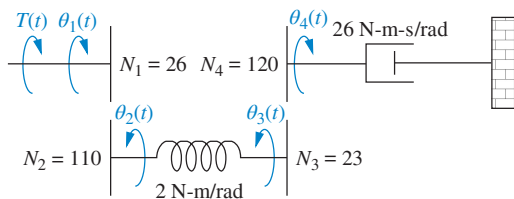

FIGURE P2.23
38. Find the transfer function,  $G(s) = \theta_4(s)/T(s)$ , for the rotational system shown in Figure P2.23. [Section: 2.7]